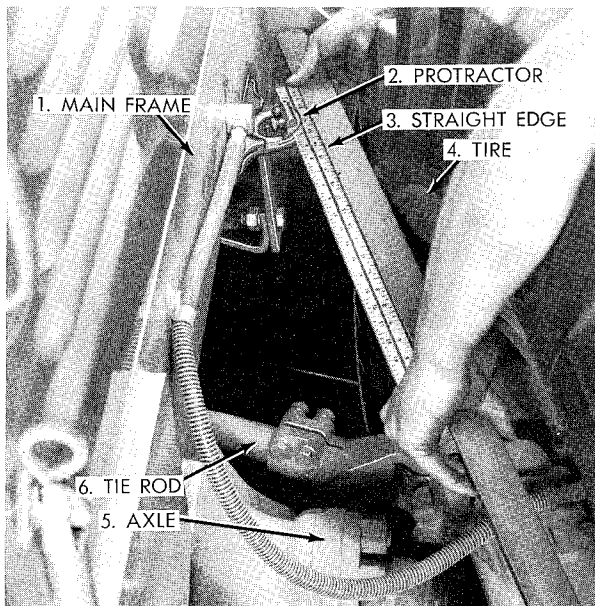

Figure 66. Measuring Steering Radius
4. Hold a straightedge across tire at about rim height, and place a protractor on forward edge of axle between straightedge and the main frame (Fig. 66). The steering angle should be 24° ($\pm 1^{\circ}$).